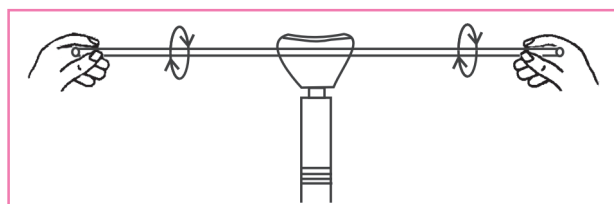

Fig. 2.6 HEATING OF GLASS TUBE
3. Keep on rotating the tube with the help of thumbs and fingers while heating the tube so that the tube is heated uniformly from all sides as shown in Fig. 2.6.